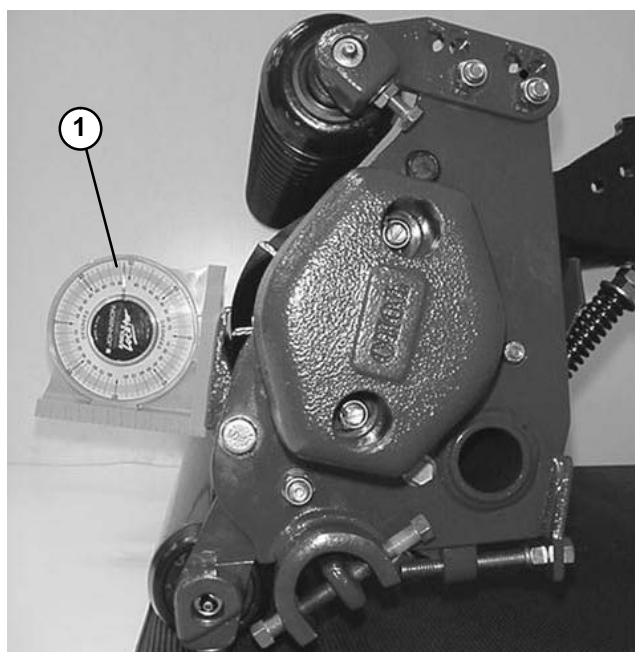

Figure 13
2. Place an angle indicator, Toro Part No. 99-3503, on the bedknife and record the bedknife angle (Fig. 13).